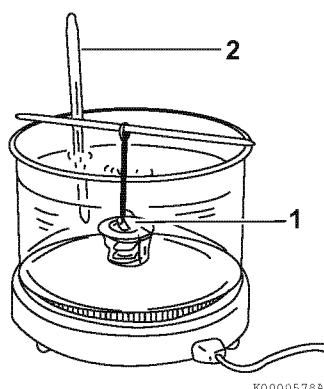

Figure 8-7
1. Check for proper operation of the thermostat. Place the thermostat (1, **Figure 8-7**) and an accurate thermometer (2, **Figure 8-7**) in warm water.